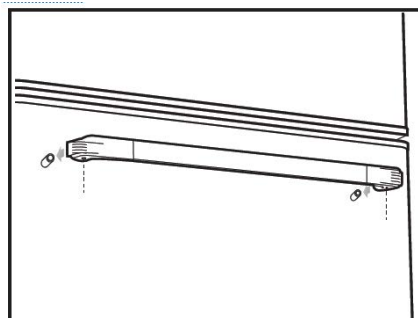

Fig. 6
- 2) Place provided fridge handle on to the screw caps on fridge door (Fig. 6) making sure that the smaller holes on the handle face downwards, and that the screw goes up into the center hole at each end of the handle. Tighten the screws using the provided 2.5 mm Allen key (Fig. 7)